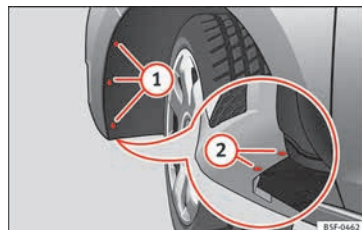

Fig. 112 Fog light: access to the connector and to the light bulb holder.
- Remove the 3 bolts **①** » **Fig. 112** from the inside of the wheel housing and the 2 bottom bolts **②** » **Fig. 112** from the bumper with the help of a screwdriver.